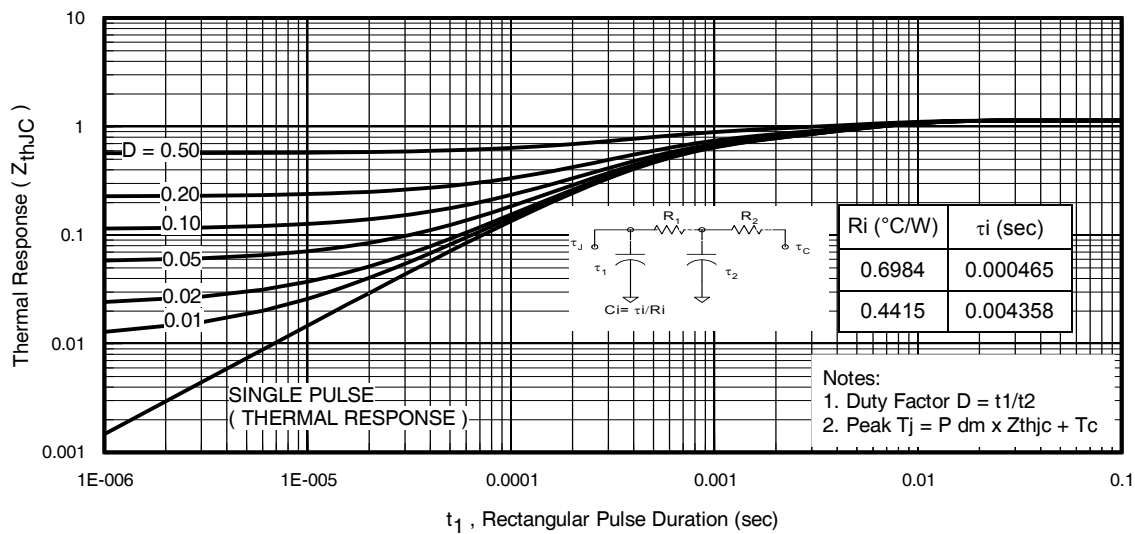
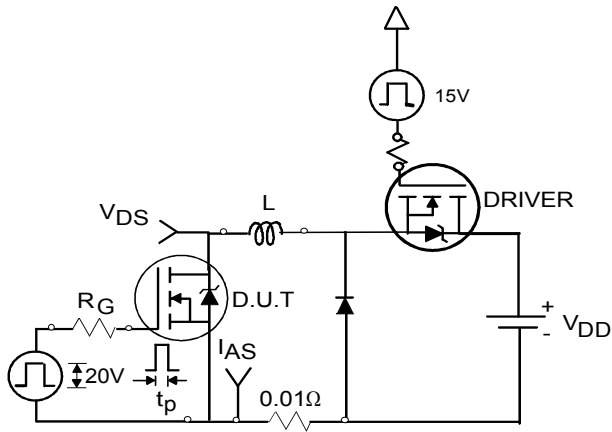

Fig 11. Maximum Effective Transient Thermal Impedance, Junction-to-Case
Fig 12a. Unclamped Inductive Test Circuit
- ① Repetitive rating; pulse width limited by max. junction temperature. (See fig. 11)
- ② Limited by T_{Jmax} , starting $T_J = 25^\circ\text{C}$, $L = 0.12\text{mH}$, $R_G = 25\Omega$, $I_{AS} = 42A$, $V_{GS} = 10V$. Part not recommended for use above this value.
- ③ Pulse width $\leq 1.0\text{ms}$; duty cycle $\leq 2\%$.
- ④ $C_{oss\text{ eff.}}$ is a fixed capacitance that gives the same charging time as C_{oss} while V_{DS} is rising from 0 to 80% V_{DSS}
- ⑤ Limited by T_{Jmax} , see Fig.12a, 12b, 15, 16 for typical repetitive avalanche performance.
- ⑥ This value determined from sample failure population, starting $T_J = 25^\circ\text{C}$, $L = 0.12\text{mH}$, $R_G = 25\Omega$, $I_{AS} = 42A$, $V_{GS} = 10V$.
- ⑦ When mounted on 1" square PCB (FR-4 or G-10 Material). For recommended footprint and soldering techniques refer to application note #AN-994
- ⑧ R_θ is measured at T_J approximately 90°C .
3. Equation below based on circuit and waveforms shown in Figures 12a, 12b.